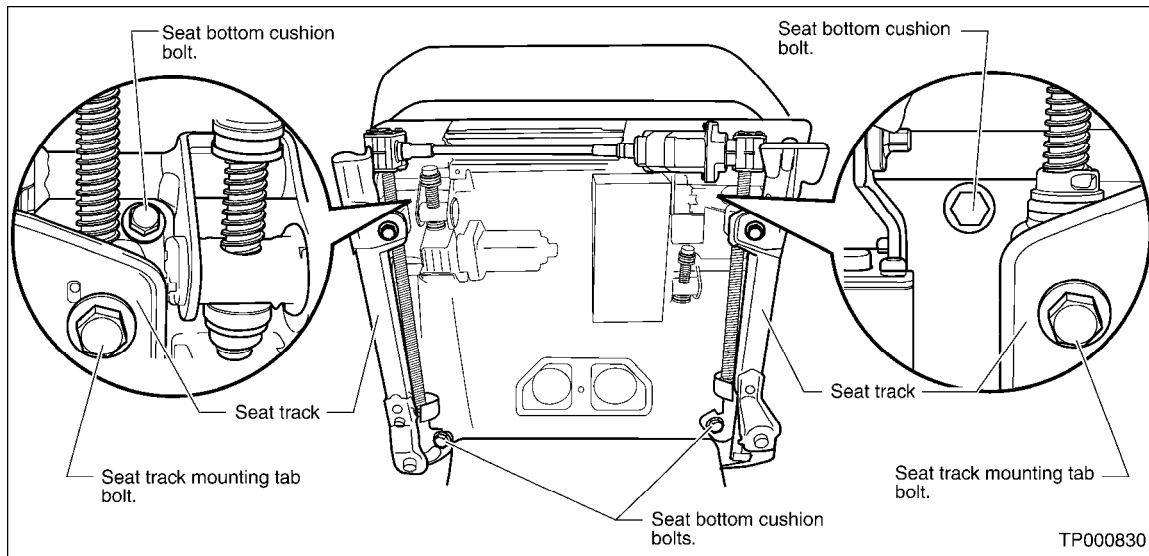

Figure 4
12. Remove the four seat bottom cushion bolts (M8, 12mm head). These will release it from the seat frame (see Figure 4).
- Then, remove the two seat track mounting tab bolts (M6, 10mm head), one on each side (see Figure 4).
25. Tighten bolts (M6, 10mm head) into both seat track mounting tabs (see Figure 4). Bolt torque: 65-84 in-lb (7.3-9.4 Nm).
27. Re-install four bolts (M8, 12mm head) to tighten the seat bottom cushion to the seat frame (refer to Figure 4 if needed). Bolt torque: 13-17 ft-lb (17.5-23.7 Nm).